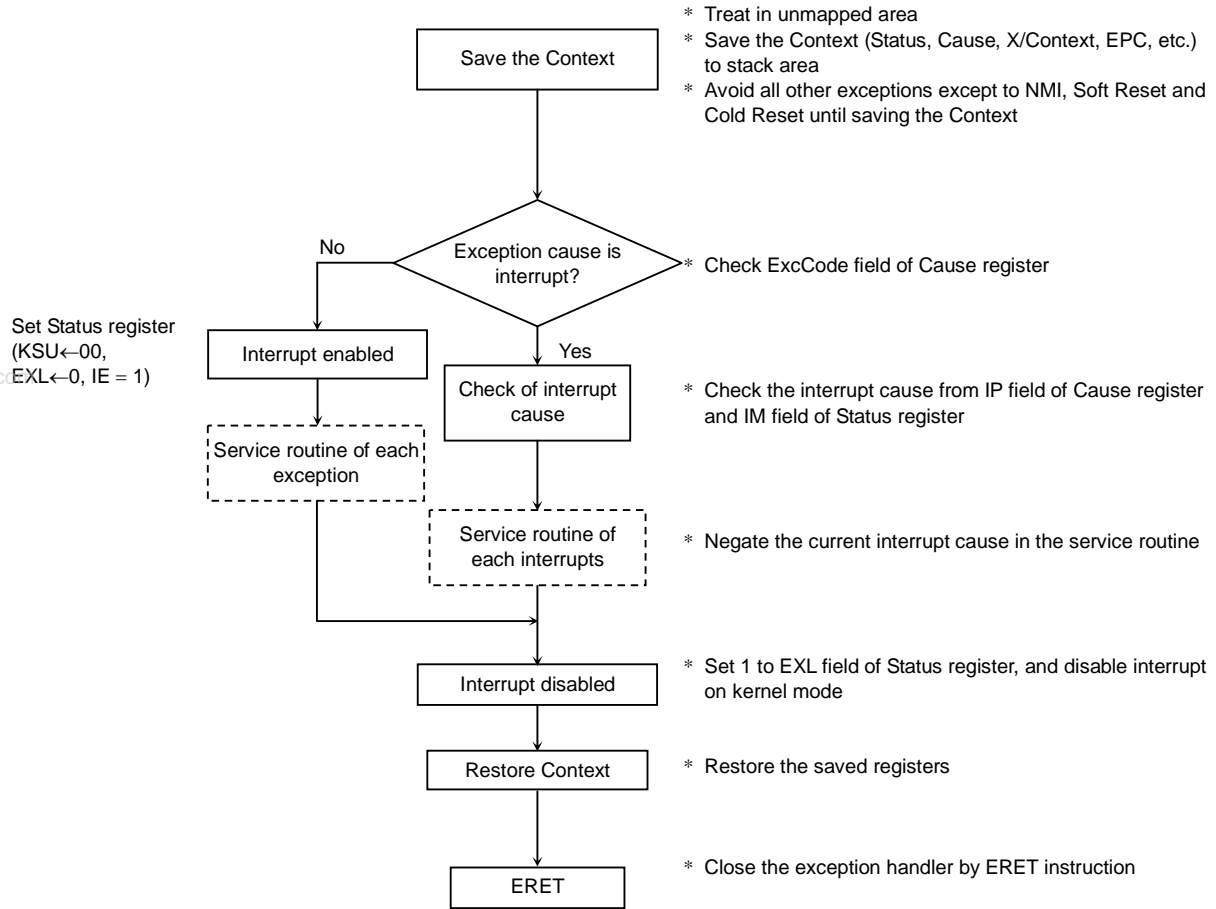

Figure 8.20.2 General Exception Servicing Guidelines (SW)
- Figure 8.20.2 shows general exception servicing guidelines (SW)